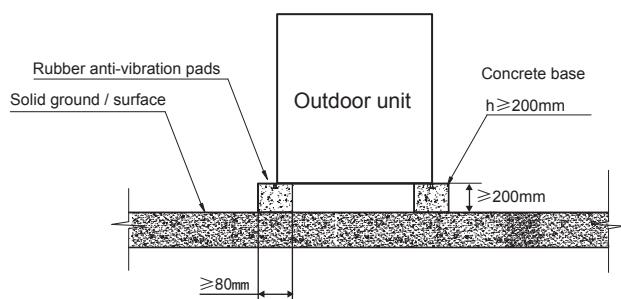

Fig. 6-6 Front view of base structure
d. A typical concrete base design is shown in Fig. 6-6. A typical concrete specification is 1 part cement, 2 parts sand and 4 parts crushed stone with steel reinforcing bar. The edges of the base should be chamfered.